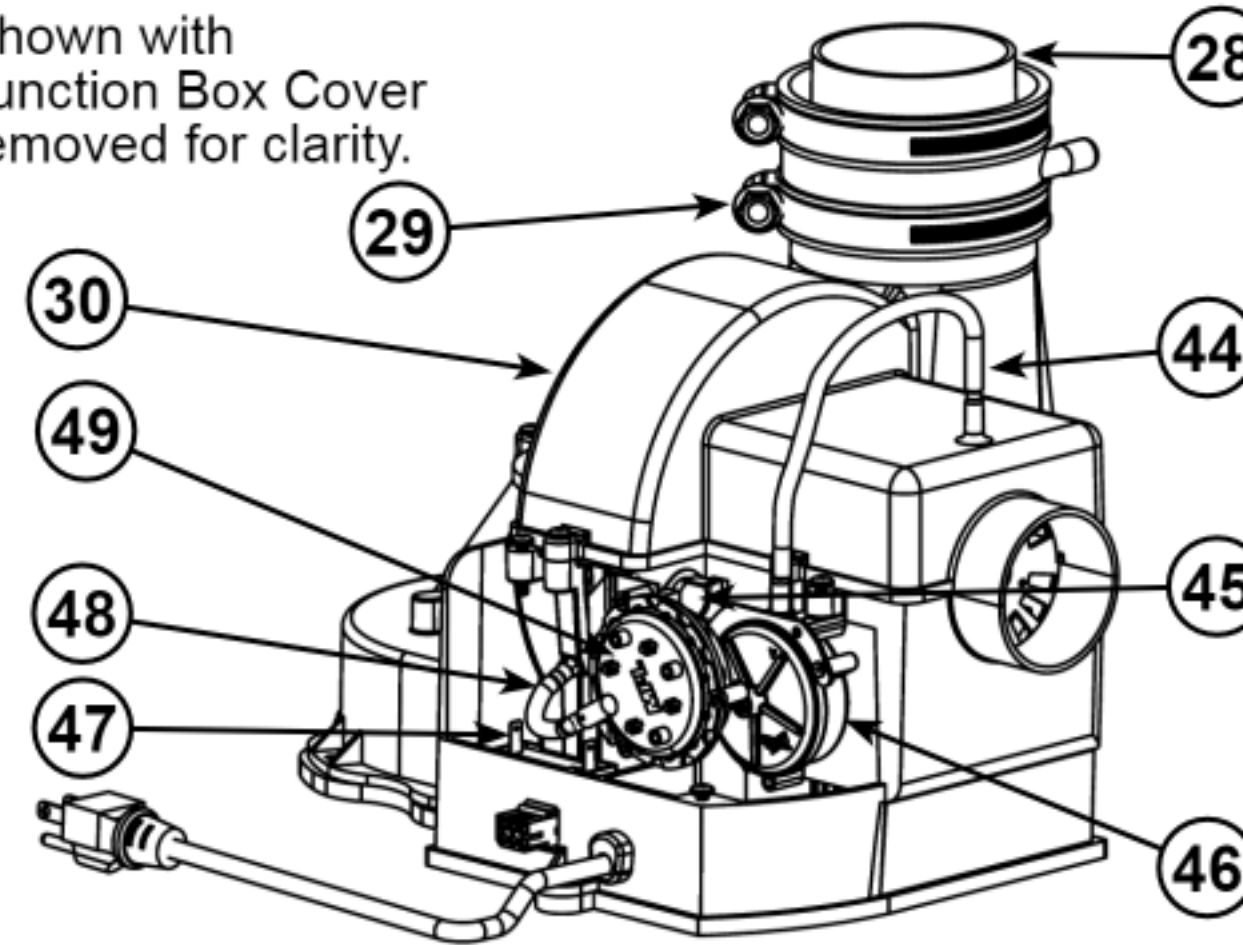

Figure 56.
- 28 \*\*\*\*Rubber Coupling (see Figure 5) (see also **Figure 56**)
- 29 Gear Clamp (see Figure 5) (see also **Figure 56**)
- 30 \*\*\*Blower with Power Cord (see Figure 5) (see also **Figure 56**)
- 44 Air Tubing (Intake) (see Figure 5) (see also **Figure 56**)
- 45 Blower High Limit Switch (see Figure 5) (see Figure 56)
- 46 Intake Air Pressure Switch (NC) (inside box) (see Figure 5) (see also **Figure 56**)
- 47 Capacitor (see Figure 5) (see also **Figure 56**)
- 48 Air Tubing (Exhaust) (see Figure 5) (see also **Figure 56**)
- 49 Exhaust Air Pressure Switch (NO) (inside box) (see Figure 5) (see also **Figure 56**)